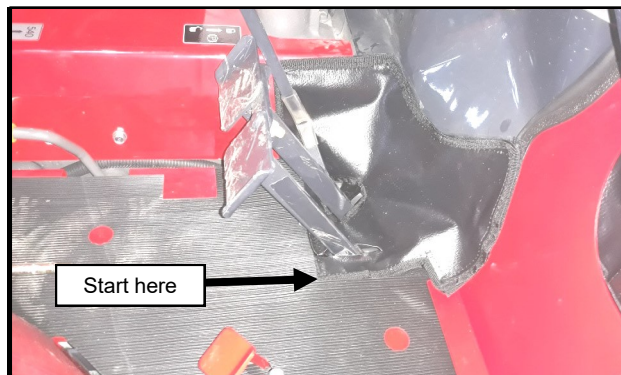

Fig. 19.2 (Set The Right Pedal Filler Into Place)
19.2 Set the right pedal filler in place. See Figure 19.2. NOTE: If you have a geared transmission, you will need to cut a slot in the filler for the second brake pedal. Start at the corner shown and work your way around the front and top, securing the filler as you go. Finish by lining up the other side of the pedal slot and secure the filler to the center tunnel.